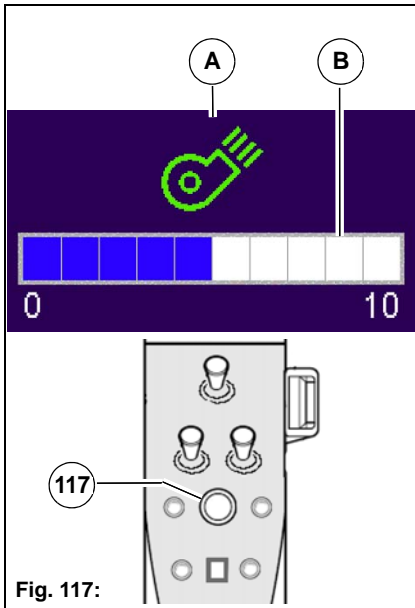

Fig. 117:
- Briefly press the turn-push knob **Fig. 117-117** to select the adjustment menu **Fig. 117-A** for the fan suction speed.
- Rotating the turn-push knob **Fig. 117-117** changes the value in the bar chart **Fig. 117-B**. The bar chart is divided into 10 increments.